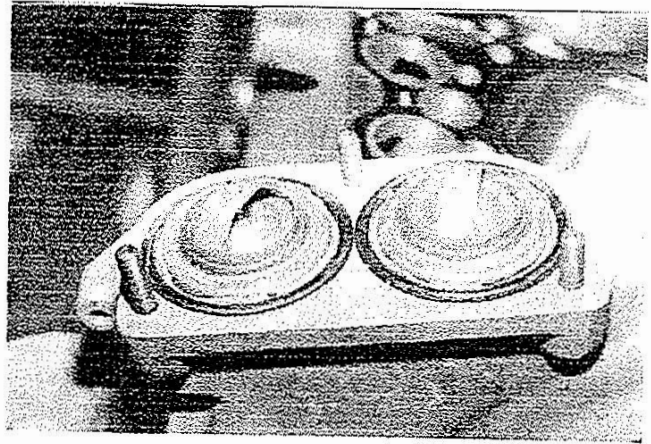

Fig.3.23
a) A thermostat having twin elements is used in the water circuit (Fig.3-23).